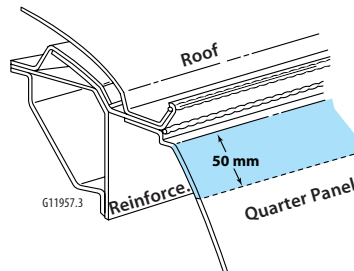

Figure 7-3:
5. Using a panel cutter, cut the quarter panel at the lower edge of the tape to leave a 50mm (2 inch) wide flange of the original quarter panel attached to the side reinforcement rail (figure 7-3).